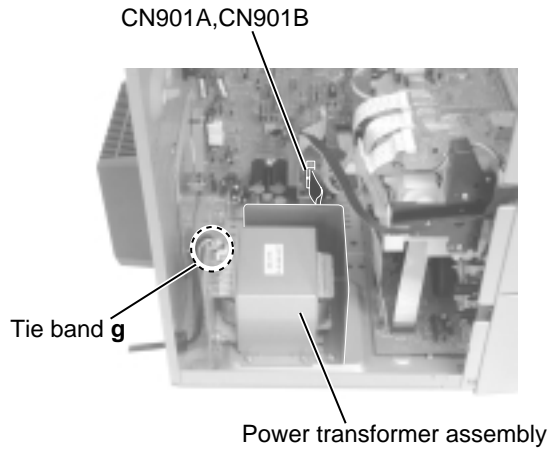

Fig.21
■ **Removing the power transformer assembly (See Fig.21 to 23)**